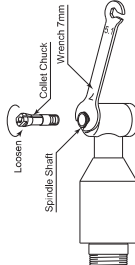

Fig. 4
- ② Place the provided 7mm wrench on the spindle shaft, and turn the top of the collet chuck counterclockwise to remove the collet chuck (Fig. 4).
- ③ Install the new collet chuck into the Spindle by turning it clockwise.